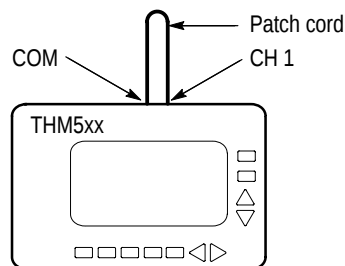

Figure 4: Noise Test Setup
2. Use a patch cord to short the THM500 series instrument COM and CH 1 inputs as shown in Figure 4.